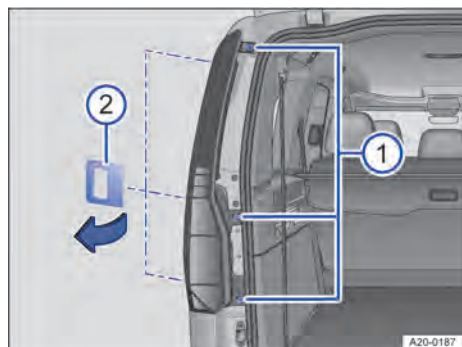

Fig. 176 At the rear left side of the vehicle: removing the tail lamp cluster.
1. Undo securing screws with a screwdriver → Fig. 176 . Insert a suitable interchangeable blade if necessary.
2. Pry the tail lamp cluster out of the holder from top to bottom using the auxiliary tool → Fig. 176 .
5. Insert the tail lamp cluster into the opening in the body and carefully press into the holder → Fig. 176.
6. Tighten the securing screws → Fig. 176 ①.